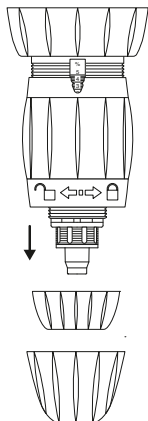

Fig. 16
- Unscrew and take off the suction valve retaining nut (Fig.16), pull out the valve set, dismantle the valve and thoroughly rinse the separate components in warm and clean water ($< 40^{\circ}\text{C} / < 107,6^{\circ}\text{F}$);